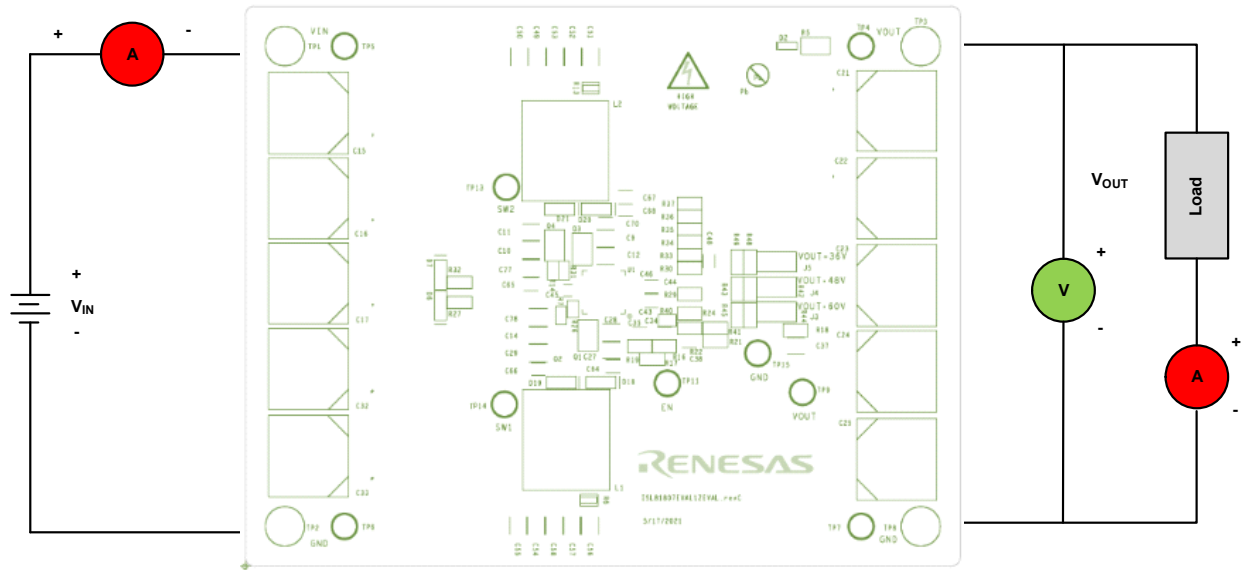

Figure 3. Proper Test Setup
As shown in Figure 3, 12V to 36V  $V_{IN}$  is supplied to TP1(+) and TP2 (-). The regulated output on TP3 (+) and TP8 (-) can supply up to 240W to the load. Because of the high-power efficiency, the evaluation board can run at 240W continuously without airflow at ambient room temperature conditions.
1. Add a jumper to J4 and leave the J3, J5 empty. See Table 2 for the operating options. Ensure that the circuit is correctly connected to the supply and electronic loads before applying any power. See Figure 3 for the proper setup.